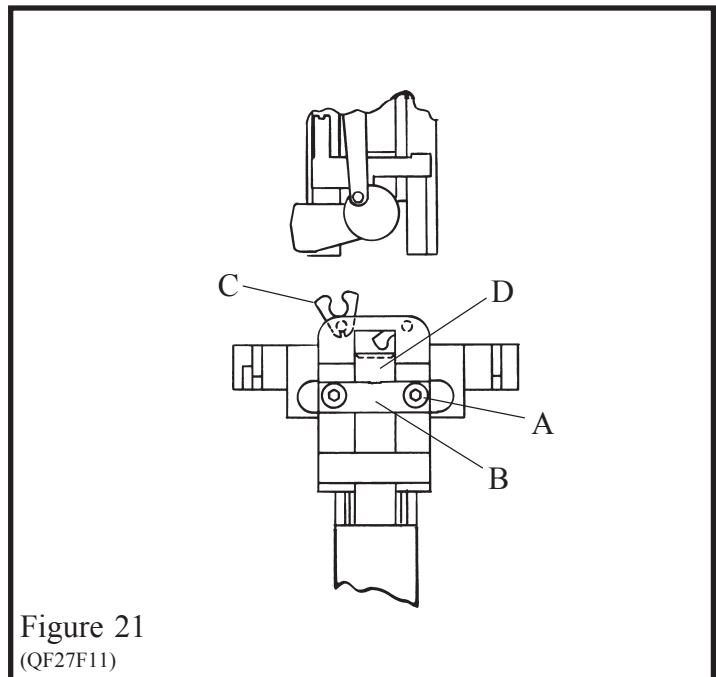

Figure 21
E. To Reverse or Replace Clincher Points (Figure 21)